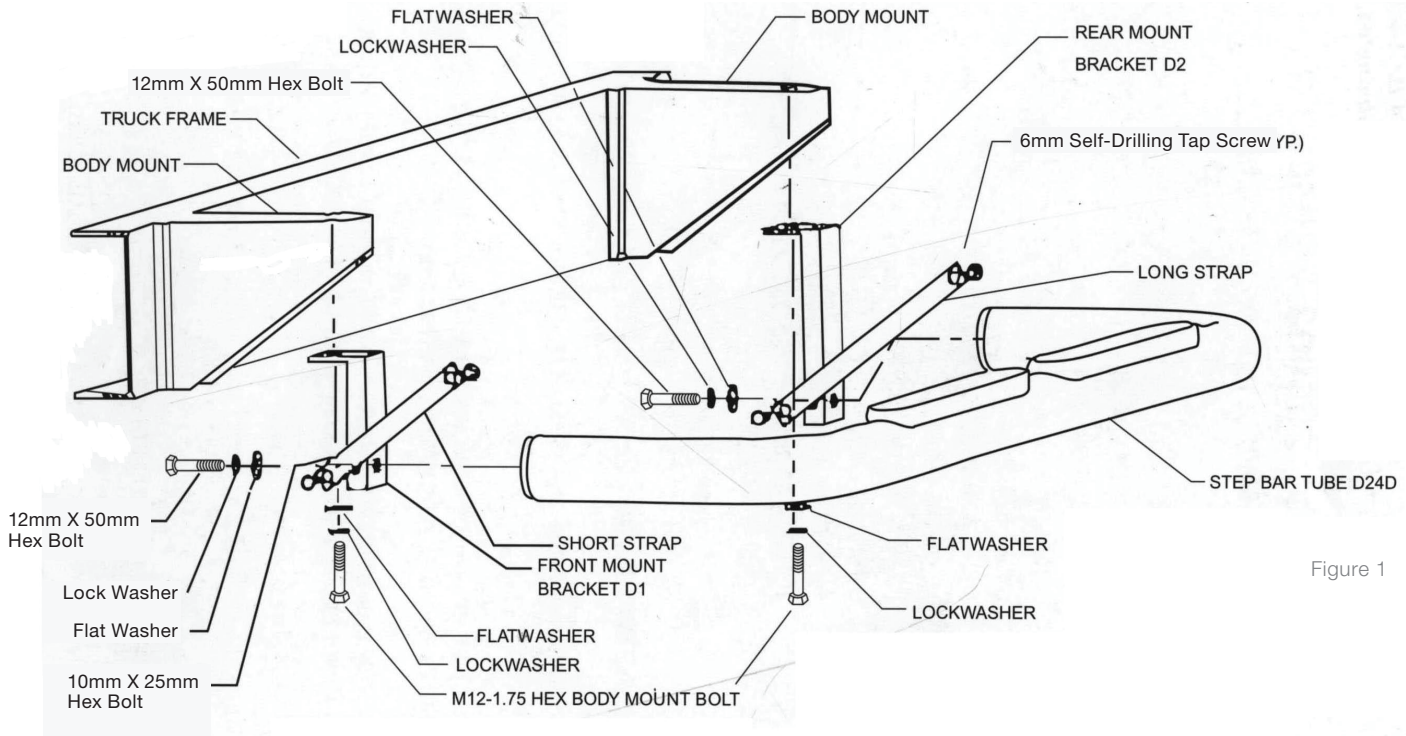

Figure 1
1. Begin installation by working on the driver-side of the vehicle, see figure 1.
4. Fasten rear mounting brace bracket to the rear mounting bracket in the same manner as the front, see figure 1.